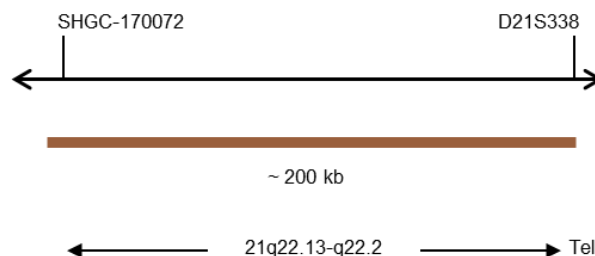

Fig. 1: SPEC 21q22 Probe map (not to scale)
- Digoxigenin-labeled polynucleotides (~1.8 ng/ $\mu$ l), which target sequences mapping in 21q22.13-q22.2\* (chr21:39,583,050-39,784,793) (see Fig. 1).